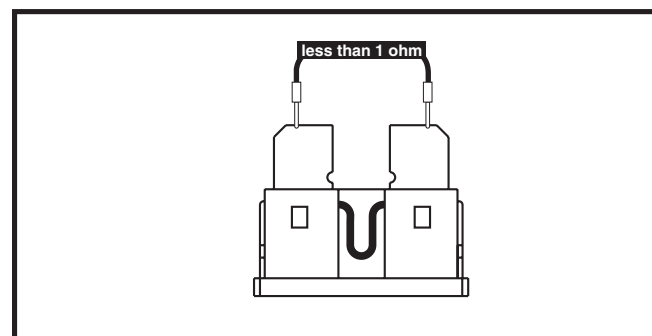

Figure 20. Fuse 7c
20. Measure resistance across the two fuse blades. **See figure 20.**